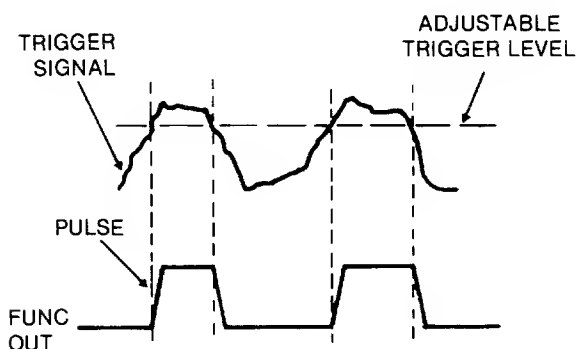

Figure 3-4. External Width
- C5** Selects external width. In external width, the output pulse period and width is fixed by the trigger signal (internal or external), while output level is adjustable by normal programming (ref: figure 3-4).